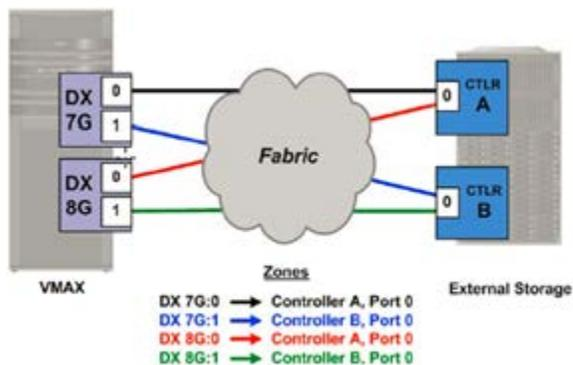

Figure 5 VMAX and Data Domain SAN connectivity
- Follow the ProtectPoint File System Agent Installation and Administration Guide for discussion about connectivity between VMAX and Data Domain. Figure 5 shows an example from the guide.